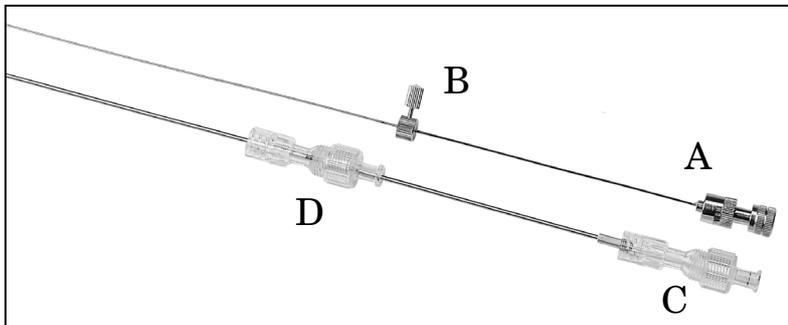

Fig. 8. The components of UA0033
- an aspirated flexible stainless steel needle, item A in Fig. 8., 626mm in length, composed of a cannula and a stylet. The proximal end of the needle is marked in black for 110mm along its length.
- a mechanical stop (metal cylinder) mounted on the needle, item B in Fig. 8.
- a flexible stainless steel spiral needle guide, item C in Fig. 8., with a sealing tube at the proximal end, and a threaded interface at the distal end.
- a medial sealing tube, mounted on the flexible needle guide, item D in Fig. 8.
4. Secure the flexible needle guide to the biopsy attachment by inserting the medial sealing tube on the flexible needle guide (item D in Fig. 8.) into the needle insertion point. Tighten by turning in a clockwise direction.